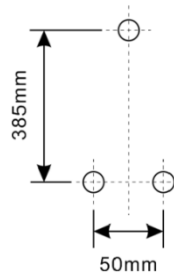

Fig.9
- (1) Drill three  $\Phi 6\text{mm}$  holes in the wall according to Fig.9 then put three expansion bolts in the corresponding holes. Put a self-tapping screw into the upper hole and drill it into the wall and keep 3mm away from the wall.